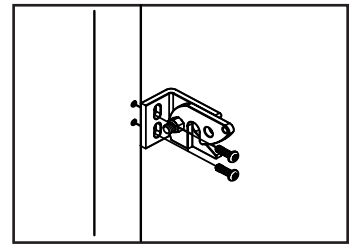

FIG. 5
- c.) Install the latch catch assembly into the opposite corner post with the provided 1/4" -20 x 3/4" Torx screws using the T-30 Torx bit and drill. (Fig. 5)